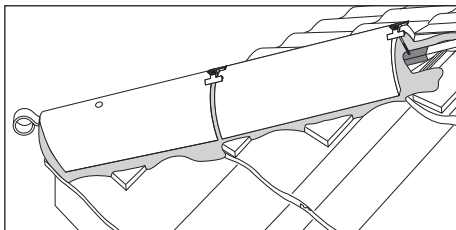

Fig. 16 – First hip tile bedded and supported with tile slips and mechanically fixed
- 6 Edge and solid bed hip tiles continuing along length of hip (Fig. 16). Ensure all hips are mechanically fixed.